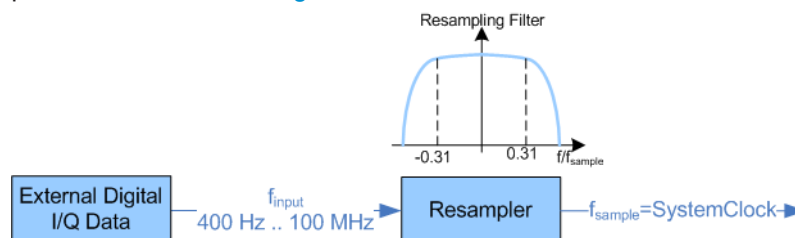

Figure 5-30: Resampling principle of external digital baseband signals
- External input signals with sample rates different than the system clock are resampled, as illustrated on Figure 5-30.
- A baseband signal with a sample rate that is smaller than the used system clock is interpolated (see Figure 5-30). With R&S SMBV-B10, the resulting modulation bandwidth is calculated as $Sample\ Rate * 0.62$, i.e. with a sample rate of exactly 100 MHz, the modulation bandwidth is 62 MHz.